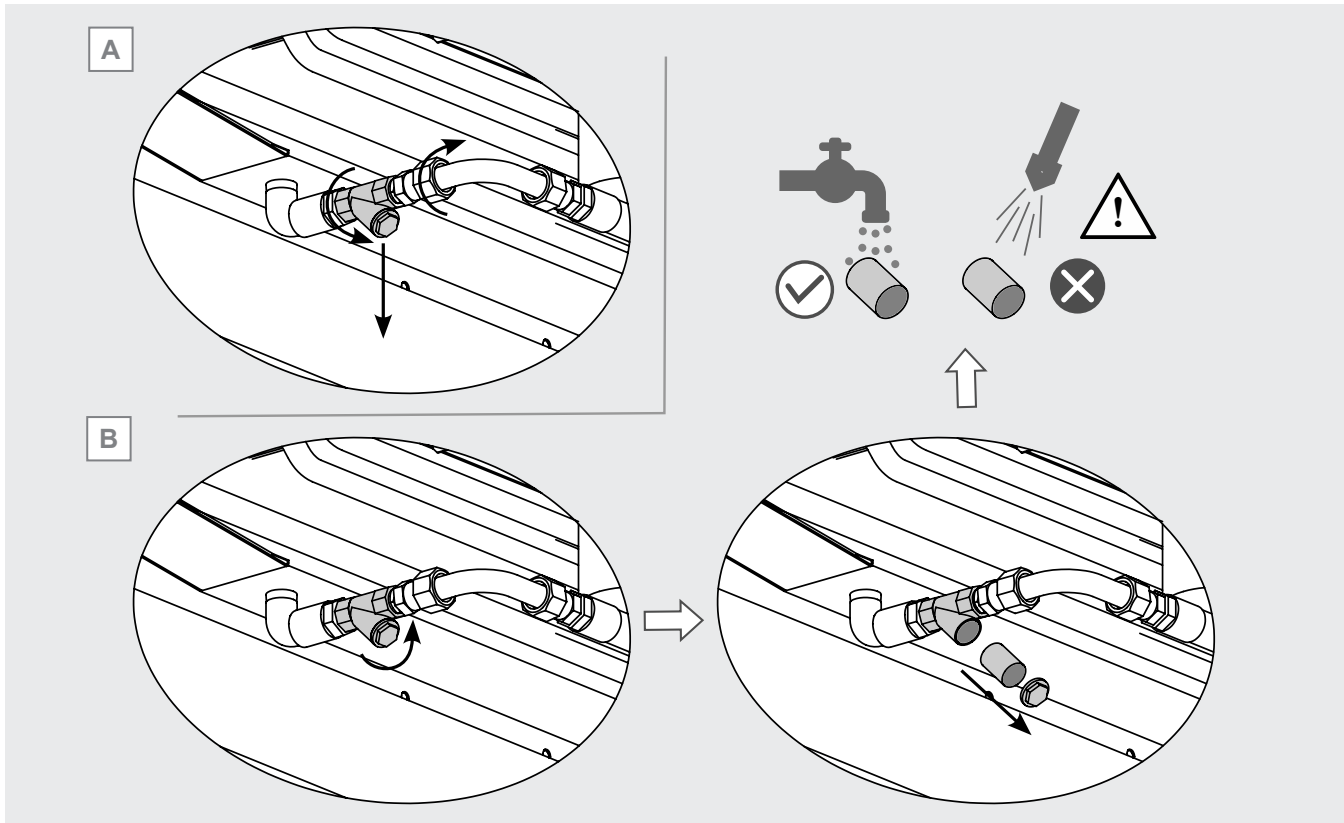

Figure 28
- 12.16.5 If the entire filter has to be replaced, unscrew the connections at the ends, see Figure 28 A: first the quick coupling and then the nut. Remove the filter and replace it with a new one with the same dimensions and characteristics: pay attention to the pressure rating on the housing. Contact Modine if necessary.
- 12.16.6 To clean the filter, unscrew the sealing cap at the bottom of the body, remove it and remove the inner drum. Take care not to damage the drum. See Figure 28 B.